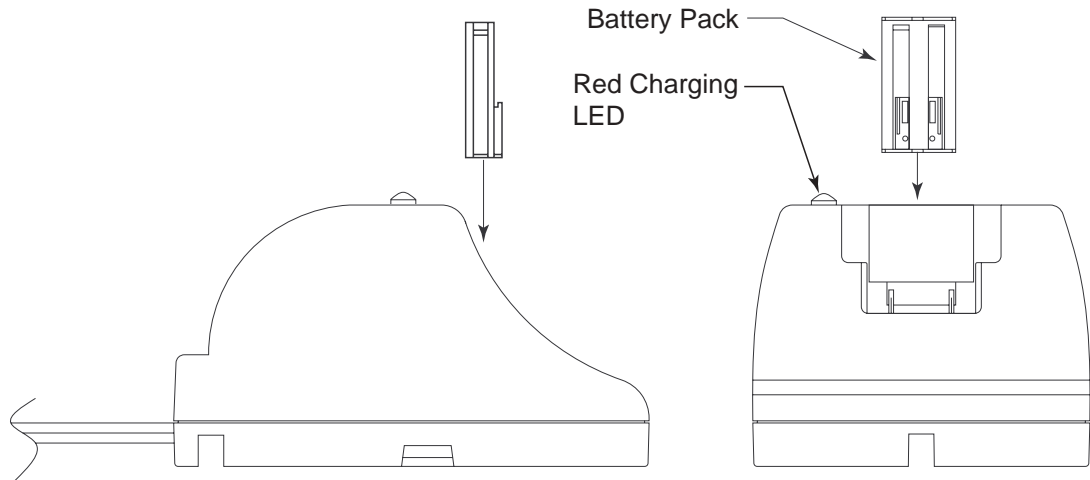

Figure 9: Putting Battery Pack Into Charging Station
2. Place the battery pack into the front part of the battery charging station as shown in Figure 9 below so that the metal contacts on the battery pack come into contact with the metal contacts in the front part of the holder in the charging station. A label on the pack which reads "To Charger" indicates which end to insert into the charger. When proper contact has been made, the red LED on the charging station will turn on.